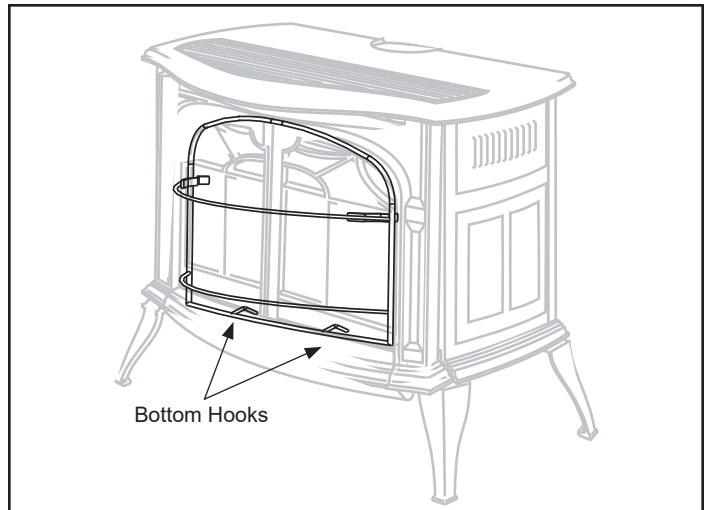

Figure 3.28 - Install safety barrier screen.
2. Place the two bottom hooks over the bottom edge of the stove opening, Figure 3.28.